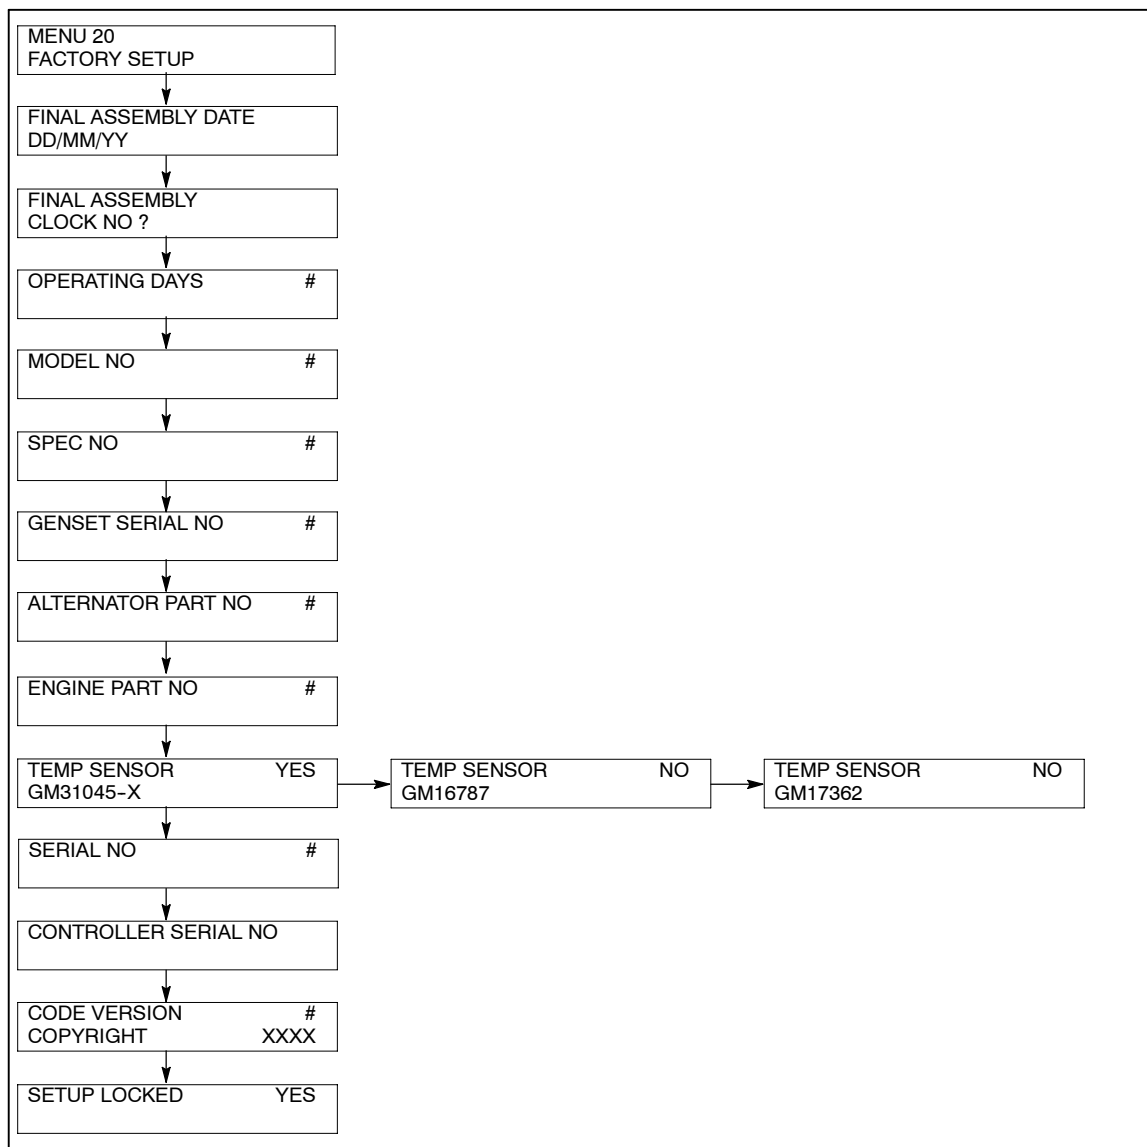

Figure 4 Menu 20—Factory Setup
7.1 Go to Menu 20—Factory Setup. The menu can remain locked when changing the sensor selection. See Figure 4.